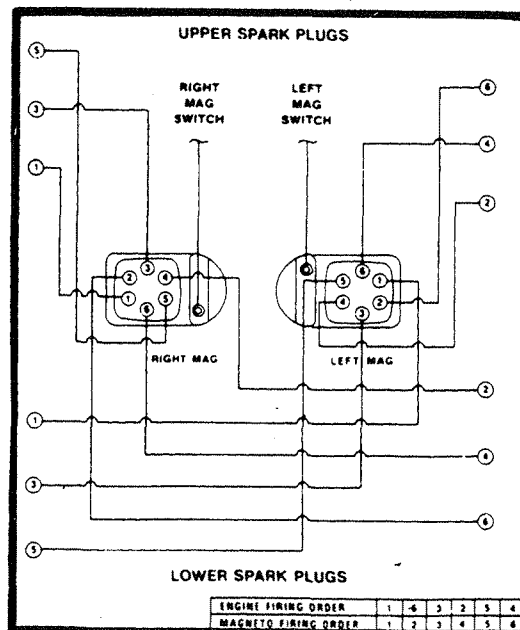

FIGURE 72-20-27.
Observe the "1" mark on the exterior side of each outlet plate adjacent to the No. 1 cable outlet hole, (Refer to Fig. 72-20-27), and observe that the numerals appearing at magneto ends of the high tension cables correspond to the consecutive order of outlet plate cable holes, while the relative positions of spark plug elbows indicate the installed position of the cables. Install cable assemblies (3 through 14, Fig. 72-10-05) in the indicated positions in the two outlet plate and grommet assemblies (1 and 2), starting with the proper No. 1 cable assembly in the marked hole of each plate, and proceeding in consecutive order around the plates. As each cable end is inserted, screw in the cable coupling nut (33), and tighten it; then place one of the brass washers (16) and a cable piercing screw (17) at the grommet hole, and turn the screw in firmly, but not enough to cut the wire strands.